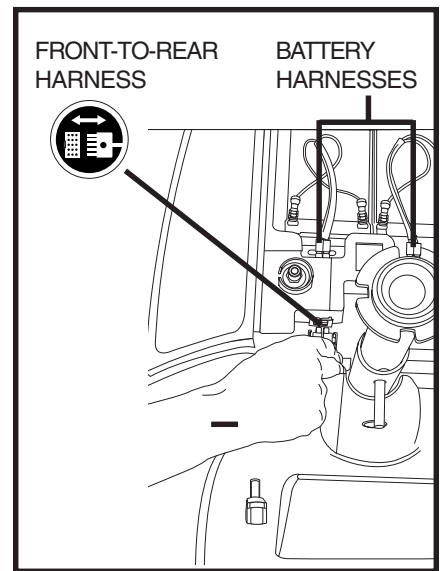

Figure 20. Wiring Harnesses
4. Unplug the front-to-rear harness and both battery harnesses. See figure 20.
6. Connect the front-to-rear harness and both battery harnesses. See figure 20.